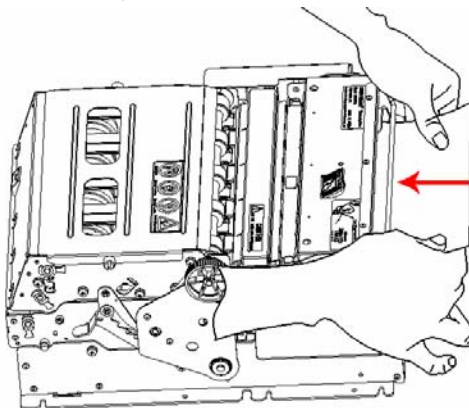

Fig.4.5.1 Semi-Auto paper load
- 2) See Fig.4.5.1, inset the front end of the paper roll smoothly through the paper feeding path and loose hands when platen roller starts running and holds the paper.